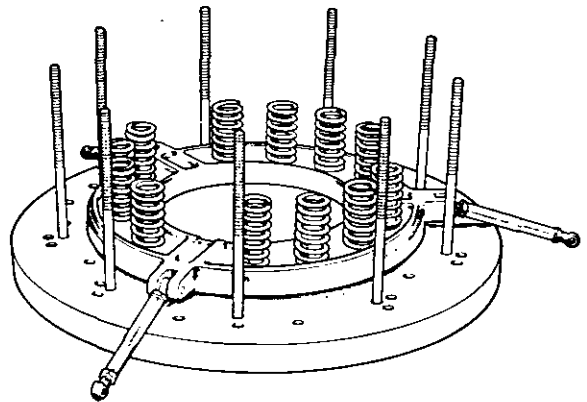
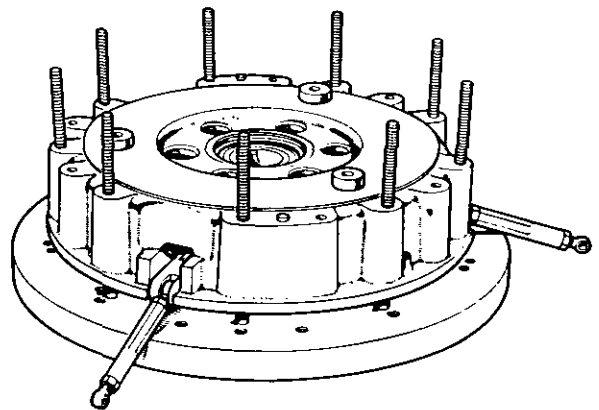

Figure 39. ASSEMBLING PTO PRESSURE PLATE
Figure 40. FITTING SEPARATOR HOUSING
2. Place Code 3 spacers on baseplate and place PTO pressure plate on spacers; position plate so the spacers are adjacent to plate lugs. Figure 39. Fit red springs on pressure plate and, after smearing plate lugs with anti-scuffing paste, place separator housing in position. Align the assembly marks and ensure that no insulating washers fall out as the housing is inverted. Look through the holes of the separator plate to check spring location. Figure 40.